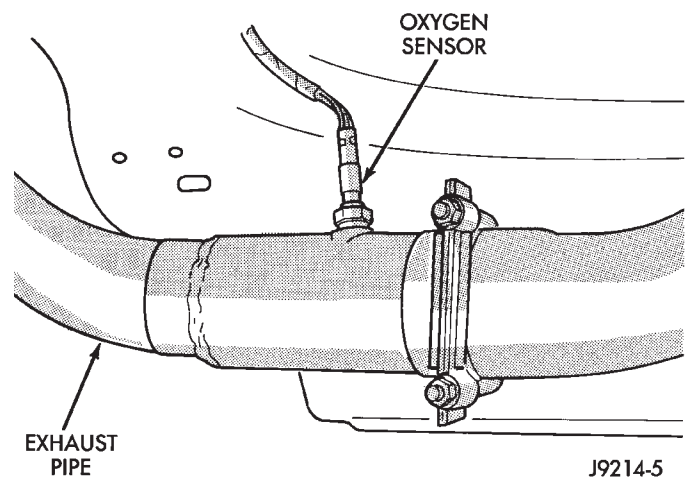

Fig. 10 Oxygen Sensor—Typical
(21) Raise and support the vehicle.
(22) Verify that oxygen sensor wire connector is firmly connected to the sensor. Inspect sensor and connector for damage (Fig. 10).